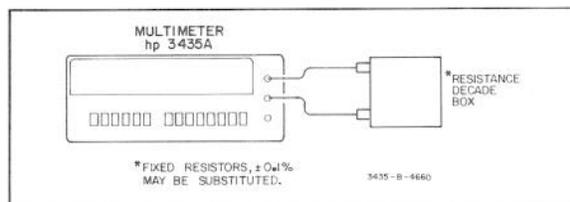

Figure 5-5. Ohms Accuracy Test.
- Connect the equipment as shown in Figure 5-5.